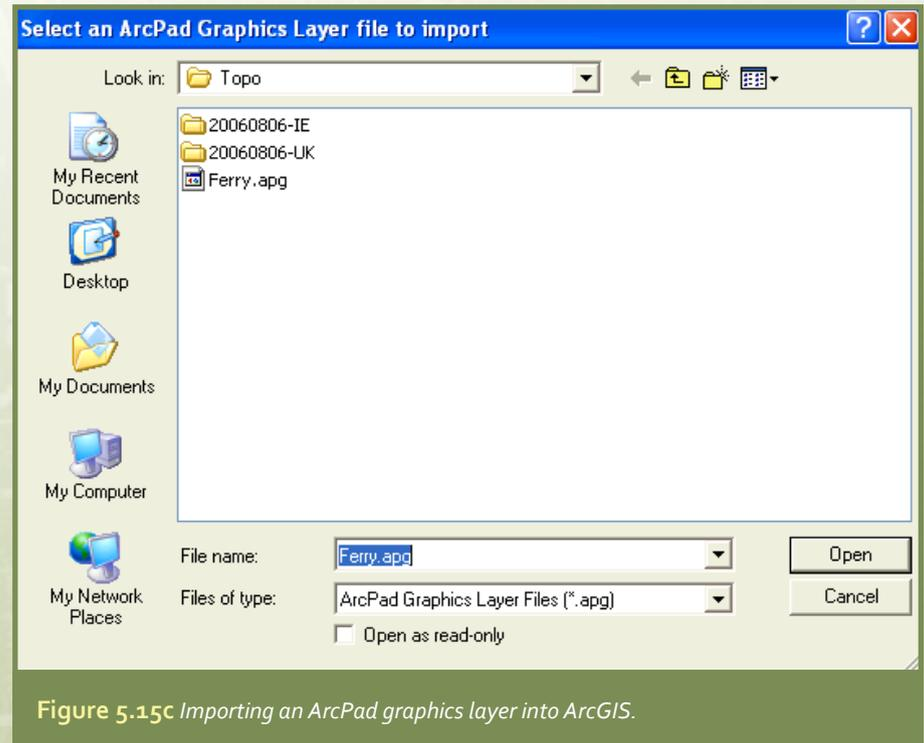

Figure 5.15c Importing an ArcPad graphics layer into ArcGIS.
6. In ArcGIS you need to activate the ArcPad toolbar (View>Toolbars>ArcPad) and select the option Import an ArcPad Graphics layer document into the Graphics layer. This opens a file dialog box from which you can choose the APG file you created in ArcPad. Once you have imported the file, it will be drawn in the current ArcGIS data frame over any data you have loaded there (**figure 5.15c**).